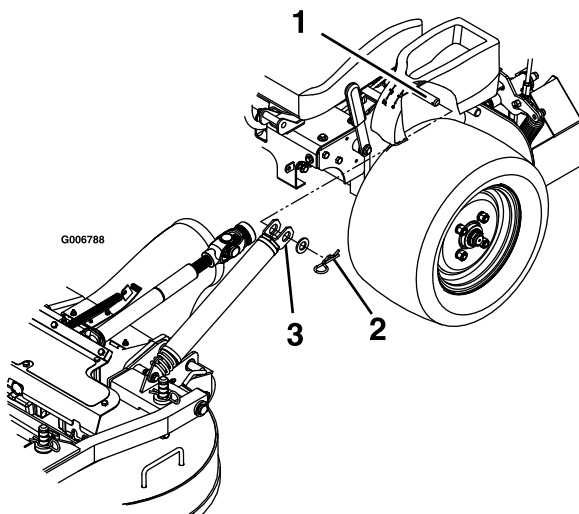

Figure 69
3. Remove the hairpin cotters and washers at the top of the deck-lift-assist spring on each side of the machine (Figure 69).
8. Install the springs onto the spring anchor pins under the left and right consoles and secure with a washer and hairpin cotter (Figure 69).